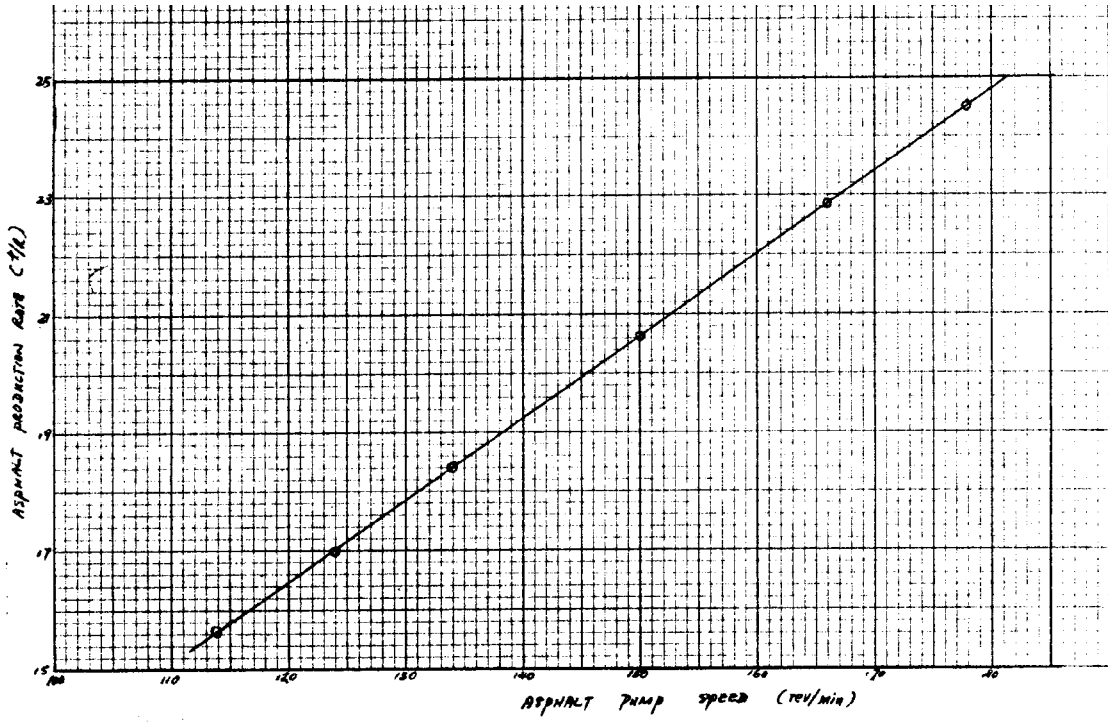

FIGURE 15
32. Plot a graph of Actual Asphalt Production Rate in t/h versus Actual Asphalt Pump Speed as shown in Figure 15. This graph can be used in the future to check the readout of the "asphalt delivered" meter.